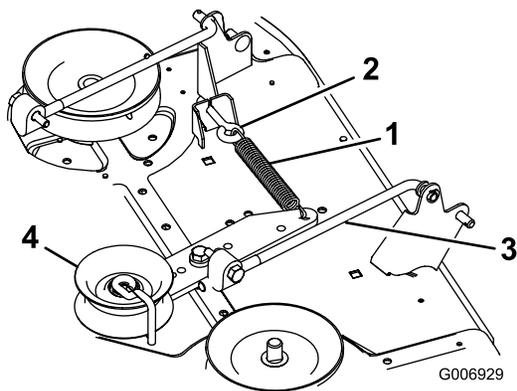

Figure 57
16. Hook the idler spring from the idler pulley arm to the eye-bolt on the cutter deck (Figure 57).